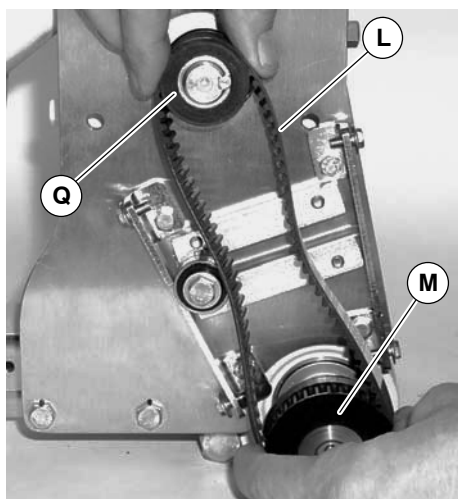

Figure 9
3. Wrap timing belt (L of Figure 9) around driven pulley (M) and drive pulley (Q). Slide driven pulley onto conveyor shaft.